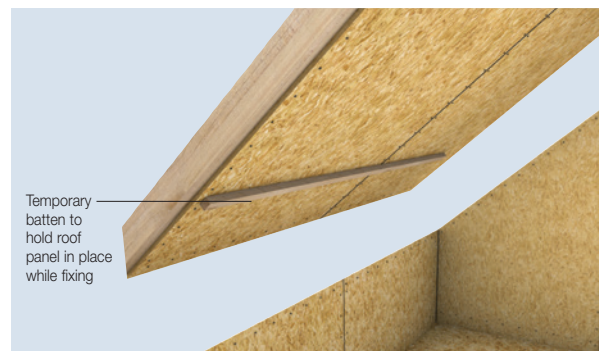

Figure 26b Timber Battens on Internal Face of Roof Section
*Hint: Attach timber battens to the internal face of the **Kingspan TEK® Building System** roof sections immediately above the lines of support to act as locators when positioning the roof and to facilitate attachment to the walls / beams. This is illustrated in Figure 26b.*